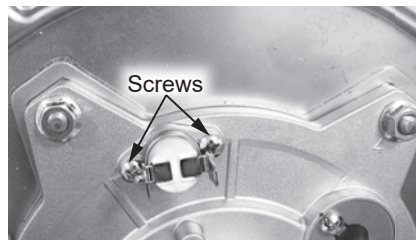

Figure 28 - Hi-Limit screw removal
5 Use a Phillips screwdriver to remove the two (2) screws securing burner door hi-limit to the burner assembly. Place screws aside in a safe place for reinstallation. See Figure 28.